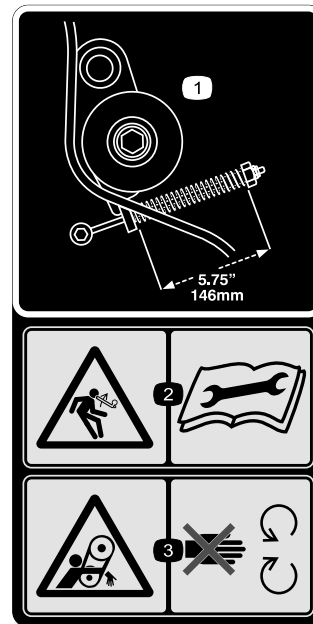

Figure 32
1. Check for proper belt tension by compressing idler spring to a length of 146 mm (5-3/4 inches); refer to Figure 32.